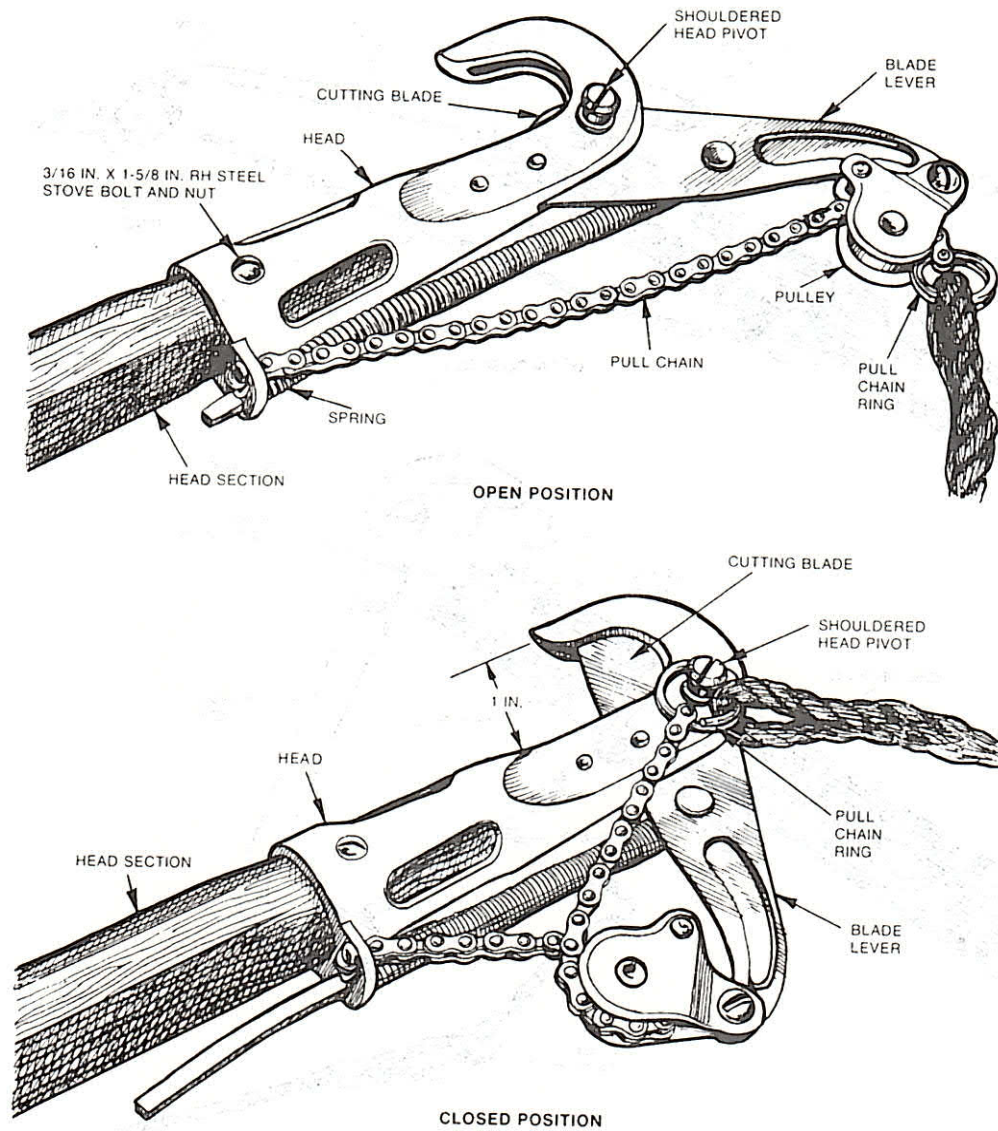
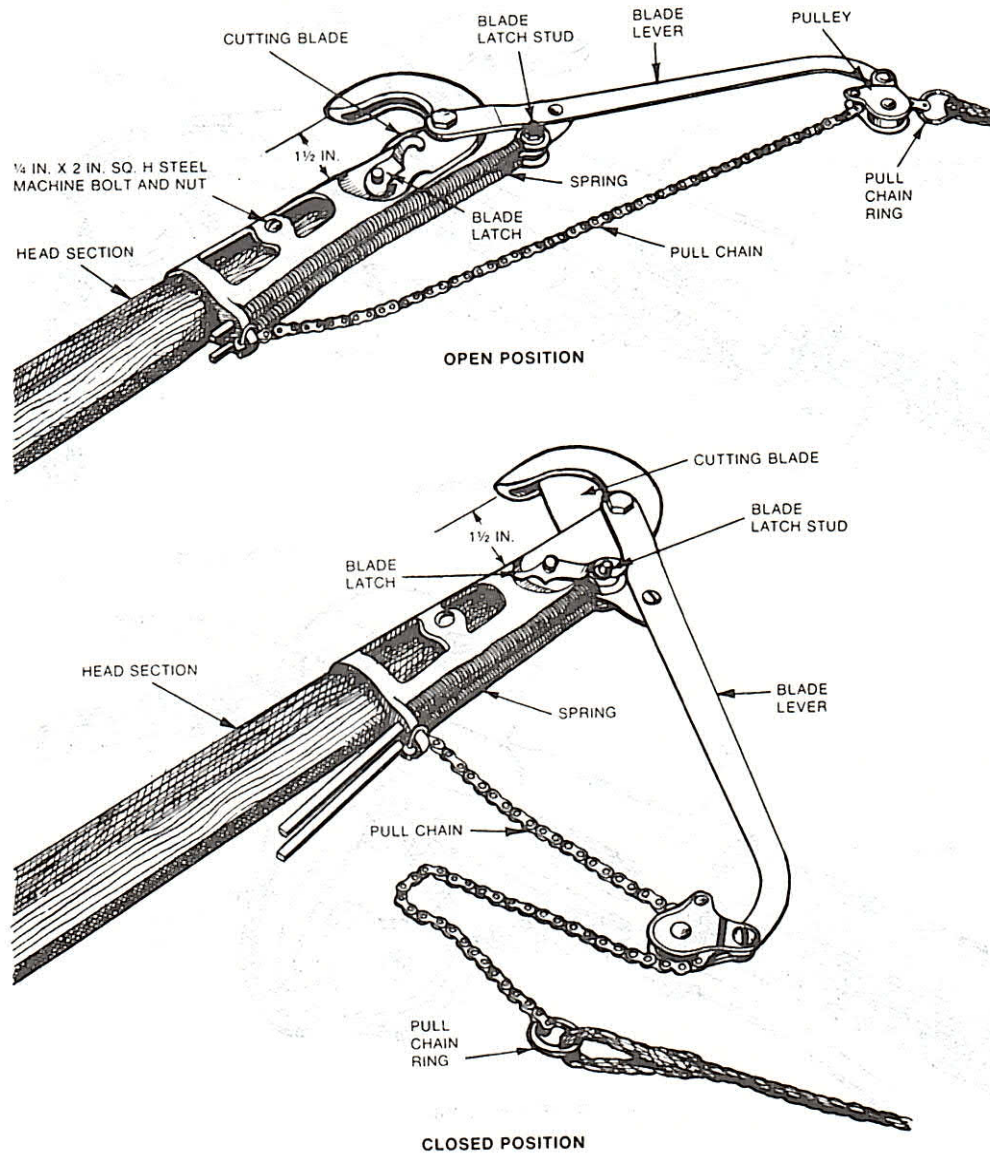

Fig. 5—B Tree Pruner Head—Open and Closed Position
Fig. 6—C Tree Pruner Head—Open and Closed Position
- 8.03 The B Tree Pruner Head (Fig. 5) is used with the small tree pruner handles and has a cutting capacity up to 1 inch. The C Tree Pruner Head (Fig. 6) is used with the large tree pruner handles and has a cutting capacity up to 1-1/2 inches.
8.05 The blade of the B Pruner can be locked in the closed position, as shown in Fig. 5, by slipping the pull chain ring over the shouldered head of the pivot bolt.
8.06 The blade of the C Pruner can be locked in the closed position, as shown in Fig. 6, by the blade latch which hooks over the blade latch stud.